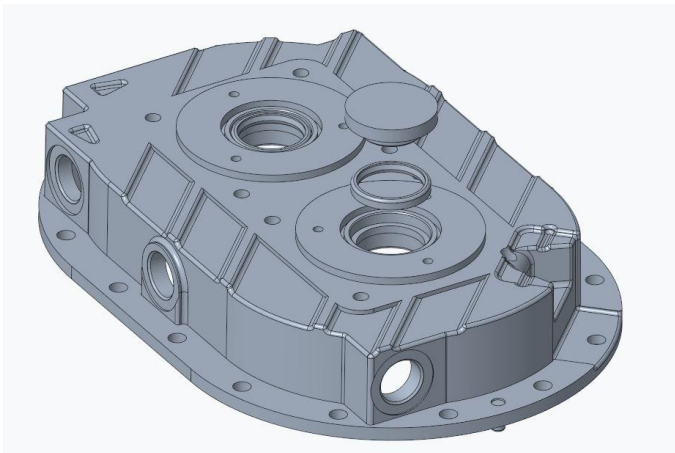

Fig. 7
22. Use a brass hammer to install 2 dowel pins (7) into the DE side plate (4). Press the oil seals (12) into the outside of the DE cover (6) using press tool 564-022, with the rounded side of the seal facing outwards as shown in figure 7.